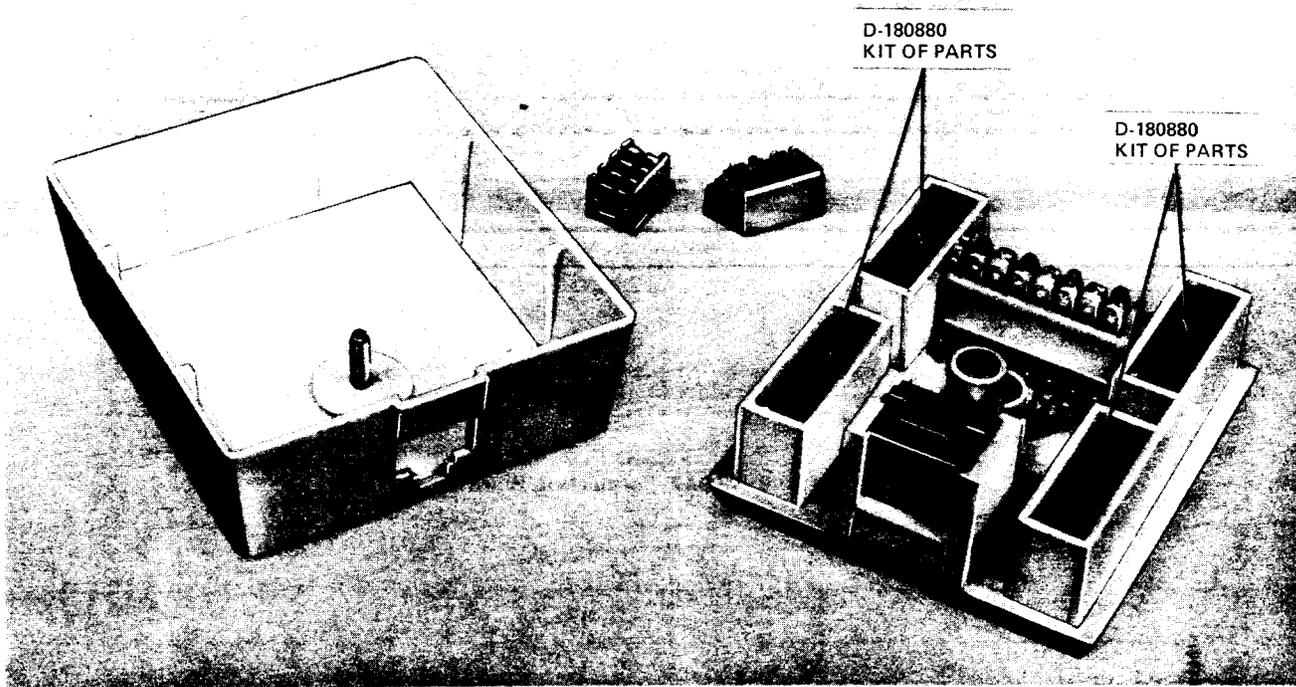

Fig. 8— 103A Connecting Block
**2.07** The 103A connecting block (Fig. 8) is used to connect one modular telephone set to the line. It is available in ivory only and consists of a plastic base containing an 8-contact jack, an 8-position quick-connect field, two plastic wire terminating caps (paragraph 1.03), and a screw-attached cover.